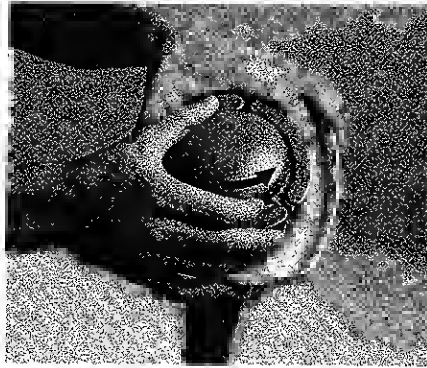

FIGURE 10
- A. Hold the rotating head securely with one hand. With the other hand, turn the ball lock to the left (counterclockwise) and remove. Figure 10